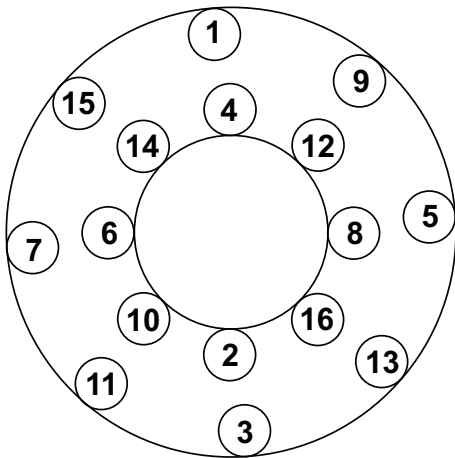

Figure 15 : Wear plate bolt tightening sequence
- 4.5.7 For each wear plate being replaced, follow the tightening sequence shown in **Figure 15** for the first 16 screws. The remaining screws may be tightened in any reasonable crosswise pattern. See Table 11 for tightening torque values.